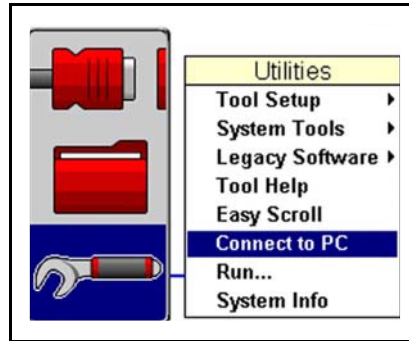

Figure 4-2 Typical Utilities Menu
2. From the Main Menu, select **UTILITIES > Connect to PC** (Figure 4-2), and then press **Y**.